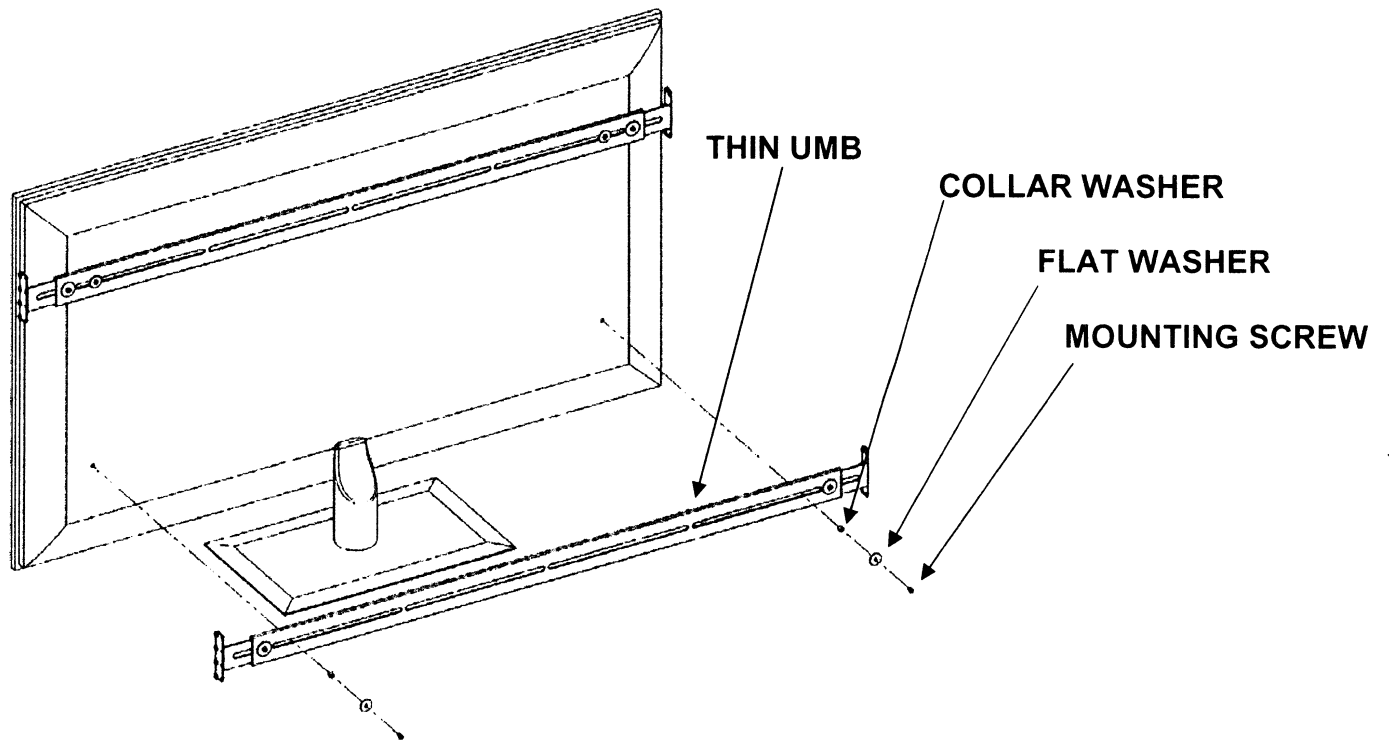

FIGURE 9
18. Using the selected components from Steps 1.1 & 1.2., refer to **FIGURES 9 & 10** to assemble the components to the FPTV chassis. **NOTE: Tighten all hardware securely.**